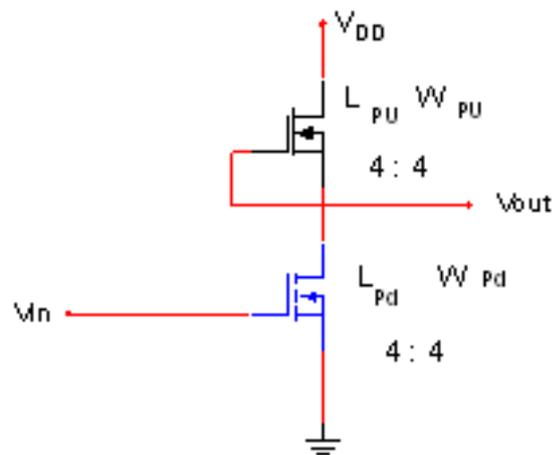

Figure 5
5. Calculate ON resistance from V_{DD} to GND for the given inverter circuit shown in Figure 5, If n-channel sheet resistance is $3 \times 10^4 \Omega$ per square. [16]